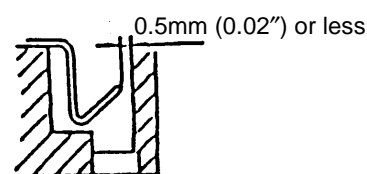

Fig.9
[CAUTION] Be very careful not to bend the leaf springs excessively. If bent excessively, they may become permanently deformed and lose their resiliency. If the clearance between the leaf spring and the inner wall of the terminal exceeds 0.5mm (0.02") (as illustrated in Fig. 9), the switch must be replaced with a new one.
- Confirm that the two Rubber Pins ②⑥ ③① are properly installed in the holes of the Fin ②⑦ ③②.
- When inserting the leadwires into the terminals of the Switch ③⑥ ④①, confirm that the leaf spring connectors are not excessively deformed (refer to Fig. 9). After the leadwires have been connected, confirm that they cannot be pulled easily out of the Switch when gently pulled by hand.
- Confirm that the Seal ③⑤ ④① is properly mounted on the Switch ③⑥ ④①.